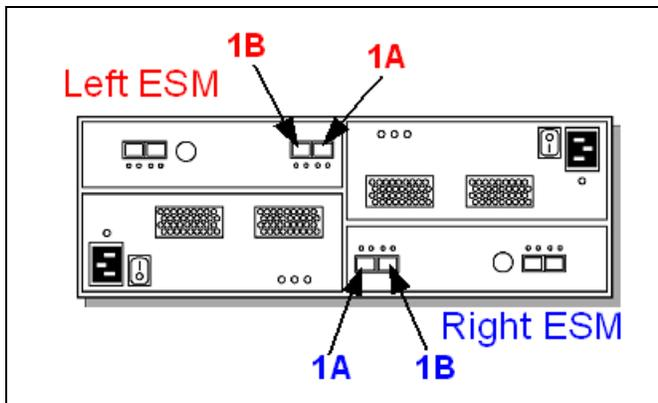

Figure 3-11 Port labels on EXP420
- ▶ The DS4200 controller drive port must always be connected to the EXP420 port labelled 1B. Because the left and right EXP420 ESMs (ESMs A and B) are inserted in the Environmental Service Modules (ESM) bays in different orientations, ensure that you use the port labeled 1B before making the Fibre Channel connection to the DS4200 storage server. Refer to Figure 3-11.